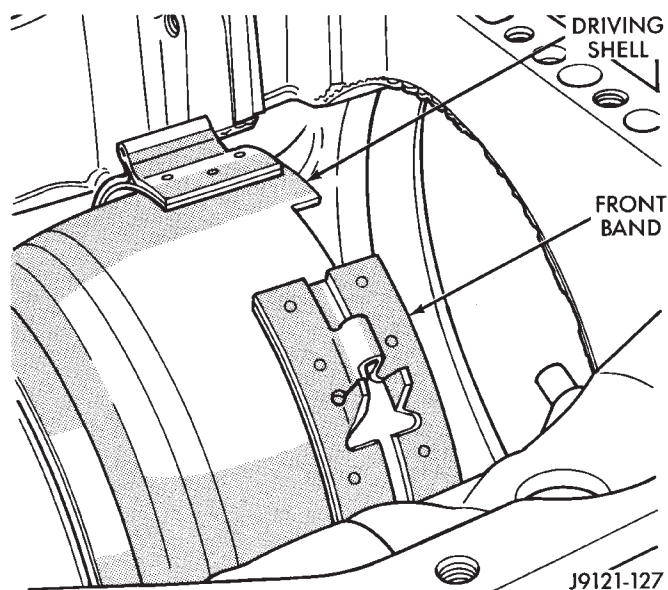

Fig. 22 Front Band Removal/Installation
(32) Slide front band off driving shell (Fig. 22) and remove band from case.